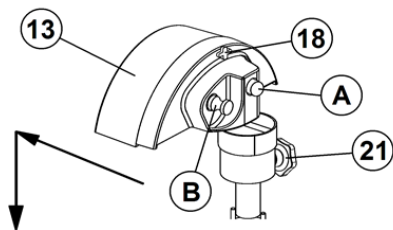

FIG 15. ADJUSTMENT SHARPENER
1.- Slide rods: you must lubricate the slicer with light oil at least every 100 hours or 3 days of service. The points to lubricate are upper and bottom sides of round (16) and square sliding rods.
2.- Knife: after certain period of use or if you notice the quality of the sliced meat is not as fine as the first time, you will need to re-sharpen the knife (2):
B. Loosen the sharpener lock knob (21) under the sharpening assembly, until it springs up (See Fig. 15).
C. Push the assembly towards the cutting blade edge, hold it in that position and press down until the stones are on each side of the knife (Aprox. ¼" under the edge) then tighten the sharpener lock knob (21) again.
D. Turn on the machine and, push the rod "A", let the stone (19) grind the under side of the knife for a few seconds. This will sharpen the edge and create a slight burr on the top side of the edge. When you release the rod "A" it will return automatically.